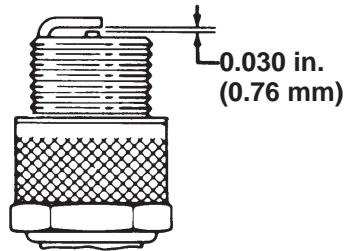

Figure 42
4. Set the air gap between the center and side of the electrodes at 0.030 in. (0.76 mm) (Fig. 42) Install the correctly gapped spark plug w/gasket seal, and tighten the plug to 200 in.-lb. (23 N·m). If a torque wrench is not used, tighten the plug firmly.